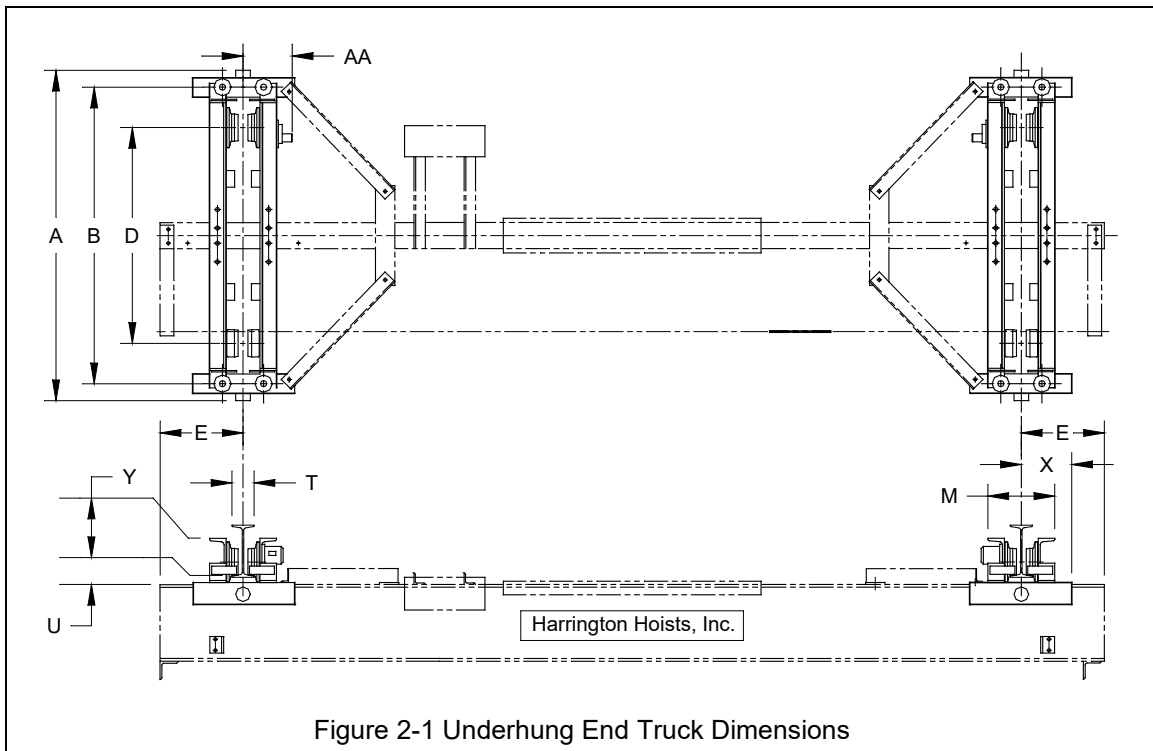

Figure 2-1 Underhung End Truck Dimensions
Underhung Push (Manual) End Trucks (Refer to Fig. 2-1)
**Underhung Geared End Trucks (Refer to Fig. 2-1)**
Underhung Motorized End Trucks (Refer to Fig. 2-1)
**Max-E-Lift Underhung Geared End Trucks (Refer to Fig. 2-1)**
**Max-E-Lift Underhung Motorized End Trucks (Refer to Fig. 2-1)**